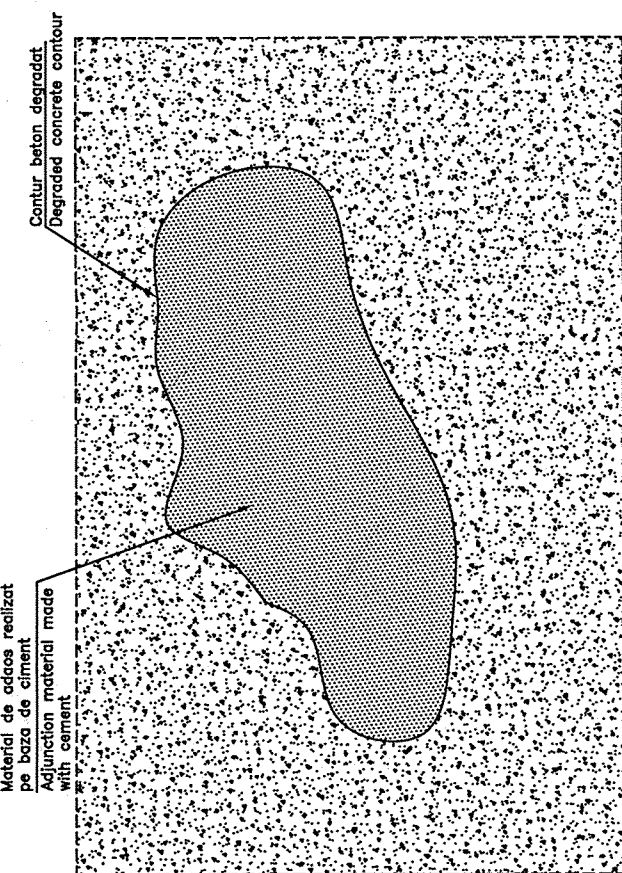

FIG. 1 MARCAREA SUPRAFETEI DEGRADATE
10. Se protejeaza suprafata reparata si/sau se trateaza eventuale defecte dupa decolorare conform remedierilor tip DS (fig. 1 si fig. 2);
11. Repairing surface finishing and/or repairing eventual defects occurred after the shuttering is removed in accordance to DS technology (fig. 1 and fig. 2);